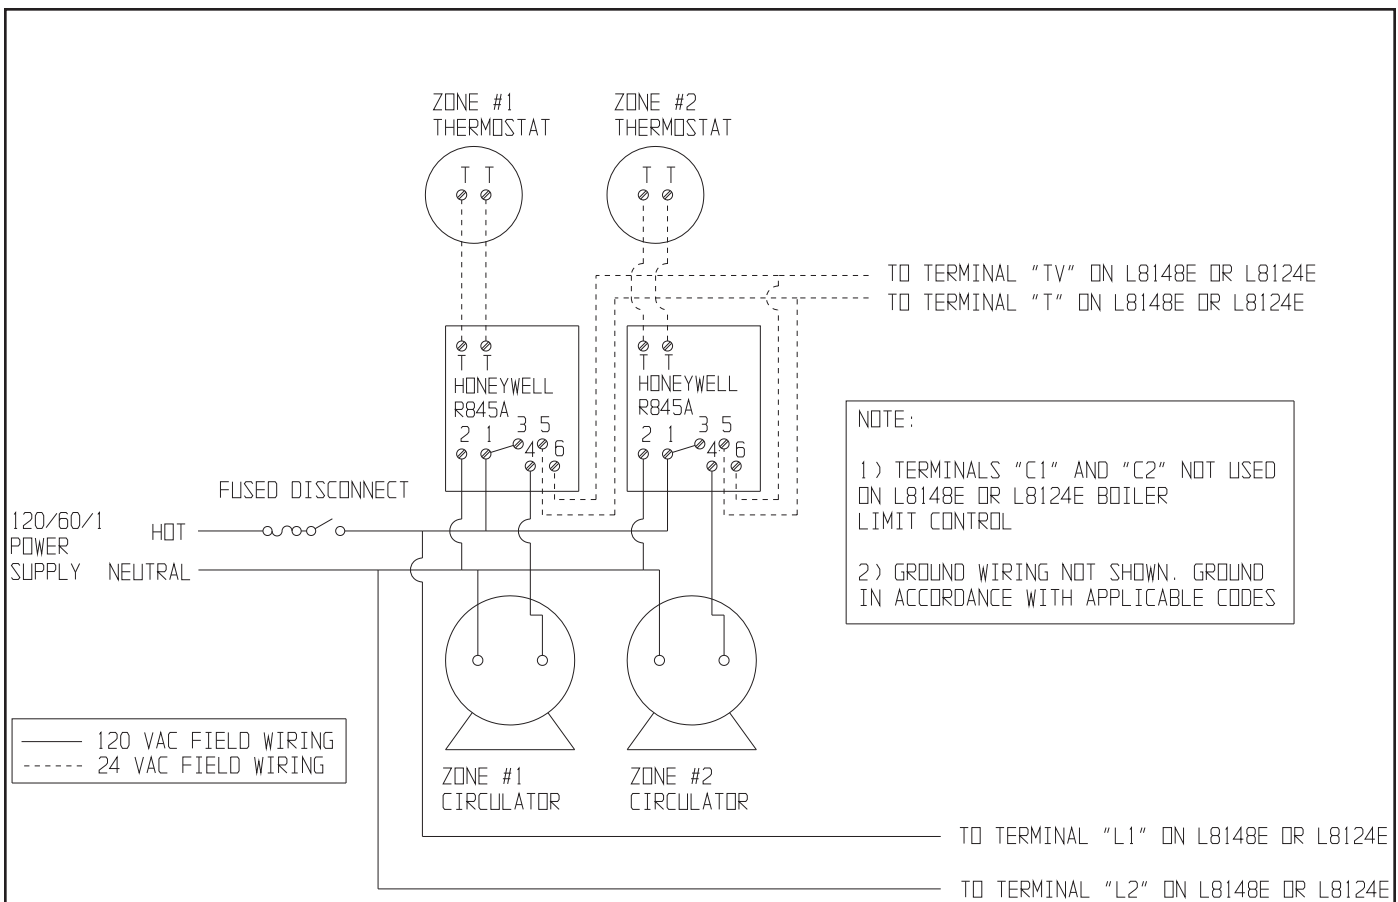

FIGURE 20: CIRCULATOR ZONE WIRING USING HONEYWELL R845As
- 1) **Multiple Circulator Zones** – Figure 20 shows wiring for two or more circulator zones using Honeywell R845As. One R845A is required for each circulator zone. Circulator terminals “C1” and “C2” on the limit control are not used. A DPST Honeywell RA832A may be substituted in place of the R845A using the “X” and “X” terminals in place of the “5” and “6” terminals on a R845A.